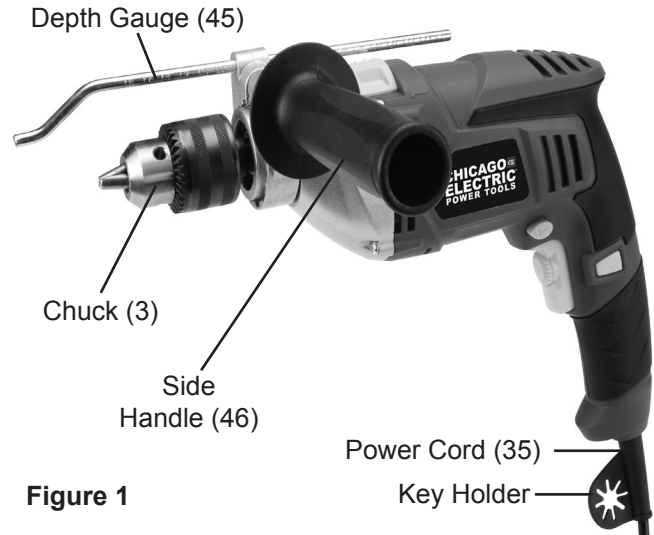

Figure 1
1. Loosen the grip on the Side Handle (46) and slide Side Handle clamp over and behind the Chuck (3) until it is set against housing.
2. Rotate the Side Handle until it is in desired orientation. If you are right-handed, position the Side Handle so it extends from the left of the housing, as shown Figure 1 above.
4. To install the Depth Gauge (45), loosen the Side Handle and slide the Depth Gauge into the gauge hole. See Figure 1, above.